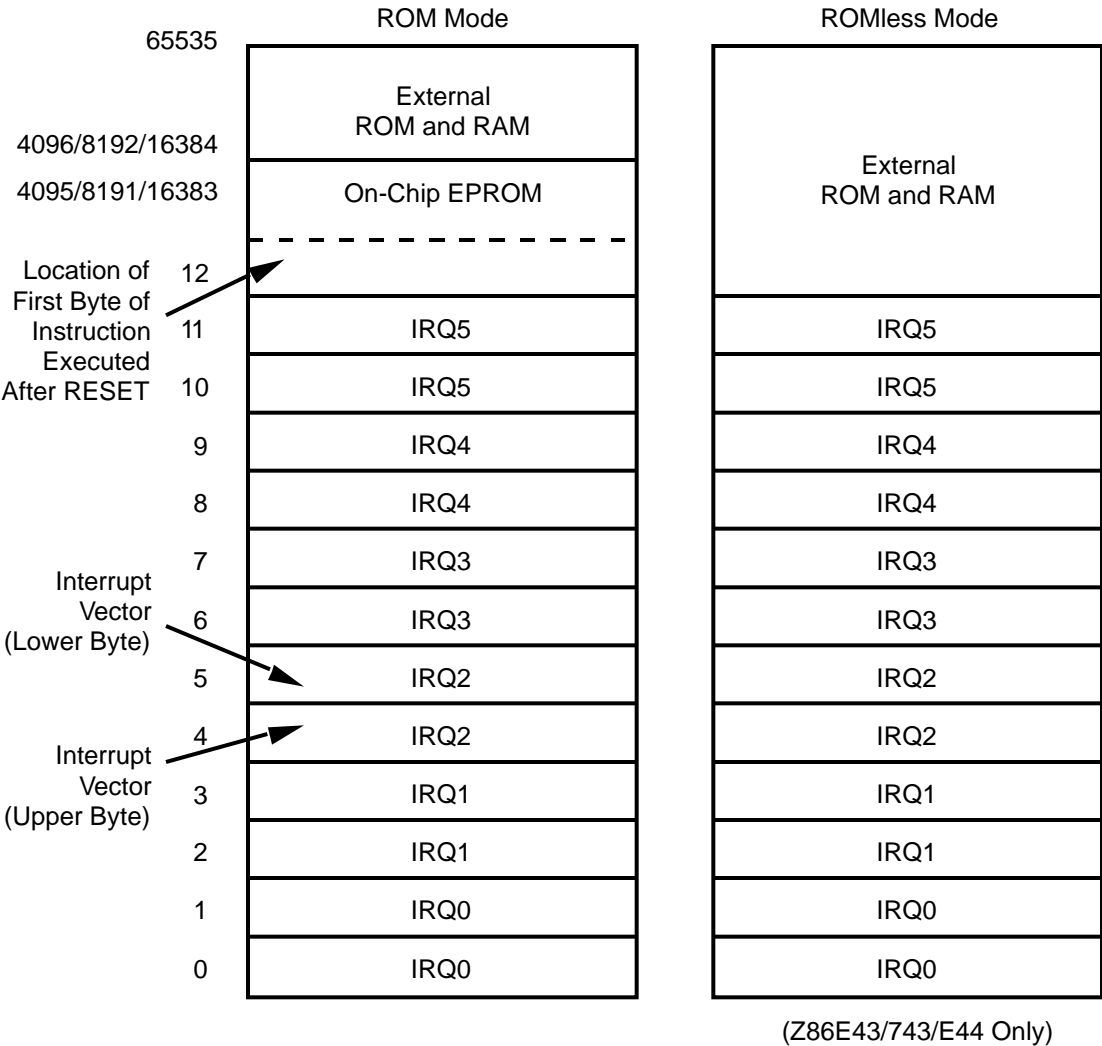

Figure 22. Program Memory Map
**Program Memory.** The MCU can address up to 4/8/16 KB of Internal Program Memory (Figure 22). The first 12 bytes of program memory are reserved for the interrupt vectors. These locations contain six 16-bit vectors that correspond to the six available interrupts. For EPROM mode, byte 12 (000CH) to address 4095 (0FFFH)/8191 (1FFFH)/16384 (3FFFH), consists of programmable EPROM. After reset, the program counter points at the address 000CH, which is the starting address of the user program.